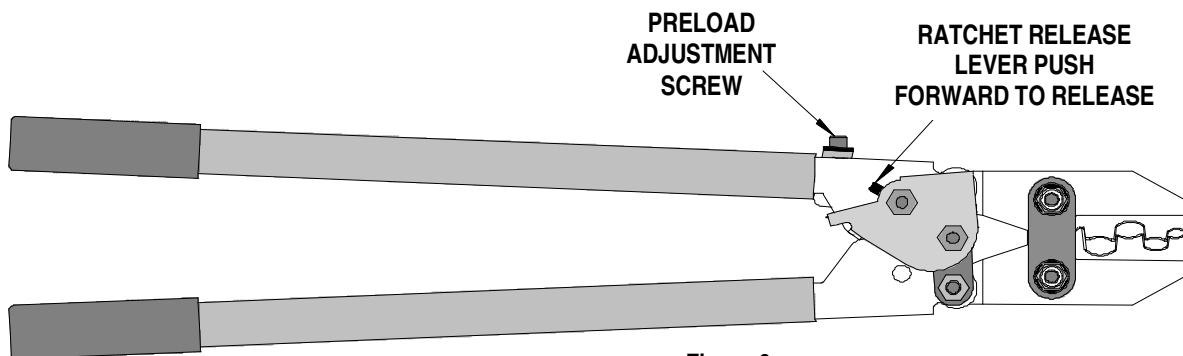

Figure 6
3. Make certain all pins; pivot points and bearing surfaces are protected with a thin coat of high quality machine oil. Do not oil excessively. This hand tool was engineered for durability, but like any fine piece of equipment, it needs cleaning and lubrication for a maximum service life of trouble-free crimping. A light oil, such as 30 weight automotive oil used at the oil points shown in Figure 6, every 5,000 crimps or 3 months will significantly enhance the tool life and ensure a stable calibration.
Should this tool ever become stuck or jammed in a partially closed position, **Do Not** force the handles open or closed. The tool will open easily by pushing the ratchet release lever forward. See Figure 6.
### How to Adjust Tool Preload (See Figure 6 and 7)